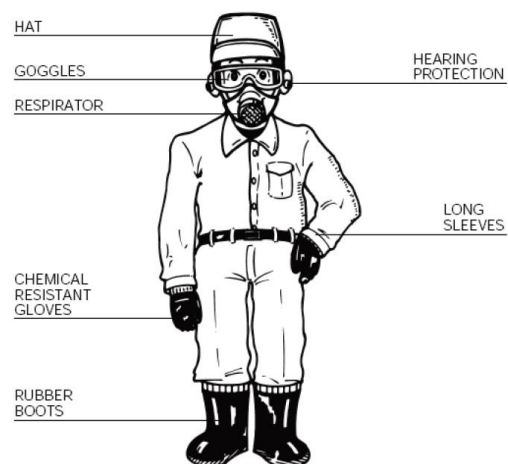

Fig 11
(2)Protective clothing (Fig.11)